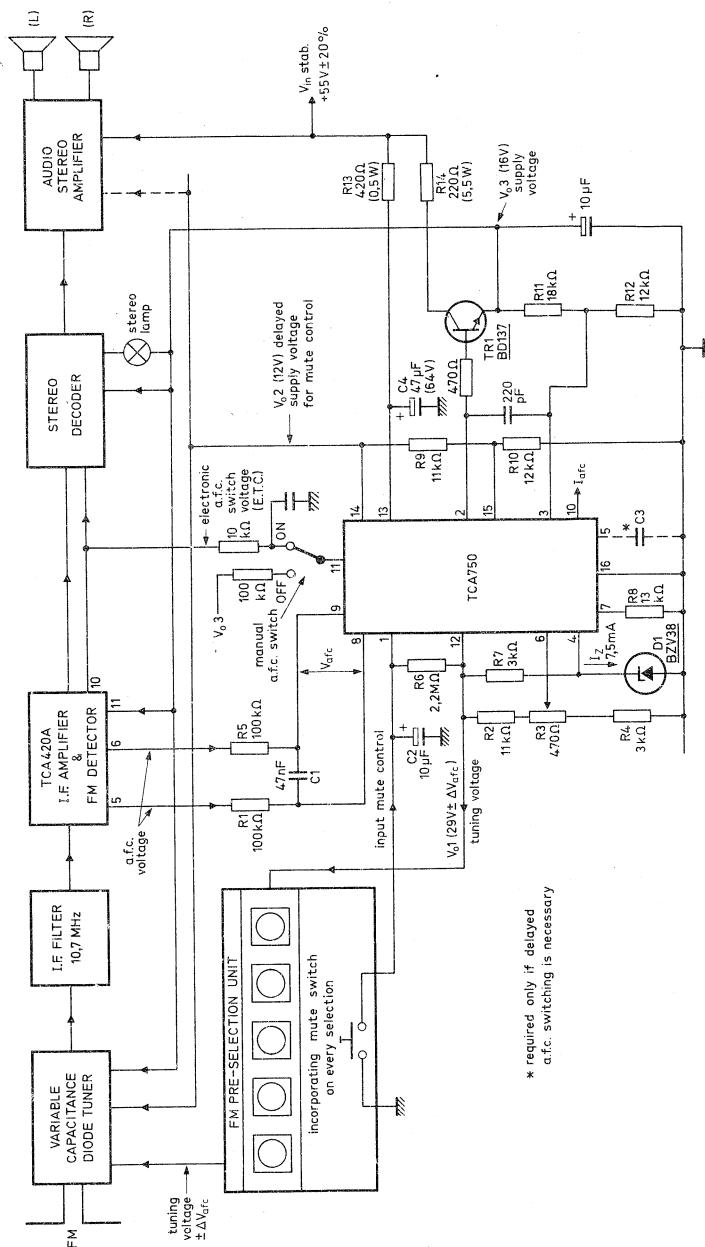

Fig. 8 Hi-fi radio receiver with electronic tuning using TCA750.
4. If a higher level is required from the output of stabilizer 1, the reference diode supply may be obtained from the emitter of a power transistor connected to the output from stabilizer 3 (see Fig. 8). In this case, the current available from stabilizer 1 is increased to 12,5 mA (bleeder current $I_{RA1} = 2 \text{ mA}$).